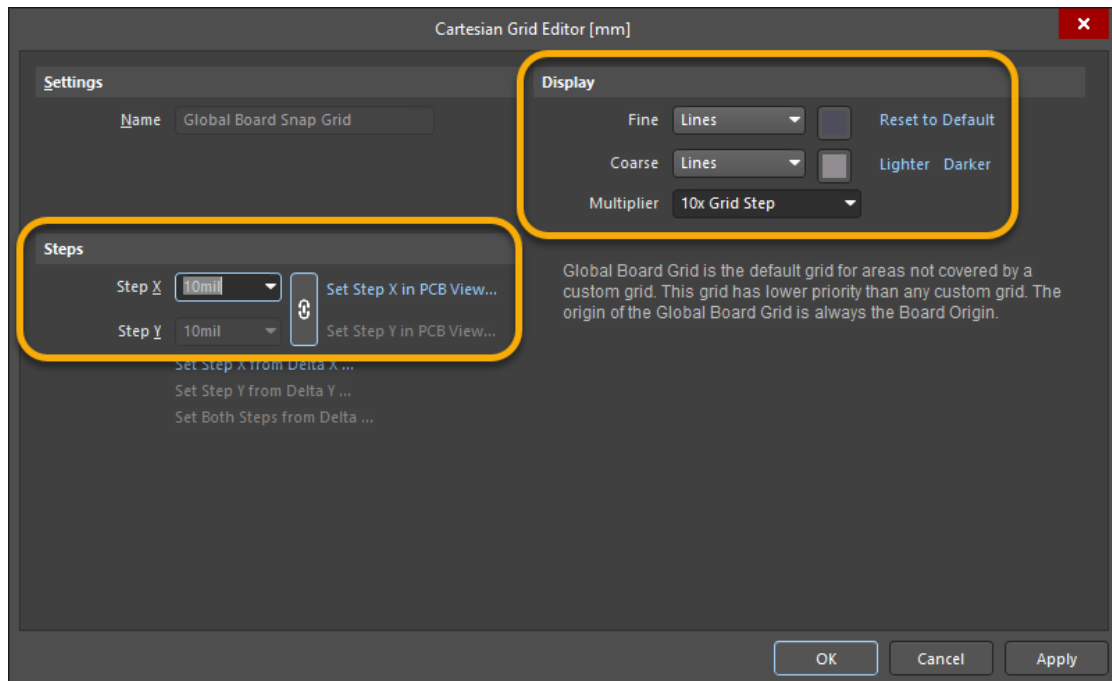

Figure 3. Default Grid Settings
16. Double-click on the *Global Board Snap Grid* name in the *Grid Manager* pane to access the default grid as shown in Figure 3 below. You can also access the Cartesian Grid Editor using the **CTRL+G** shortcut keys.